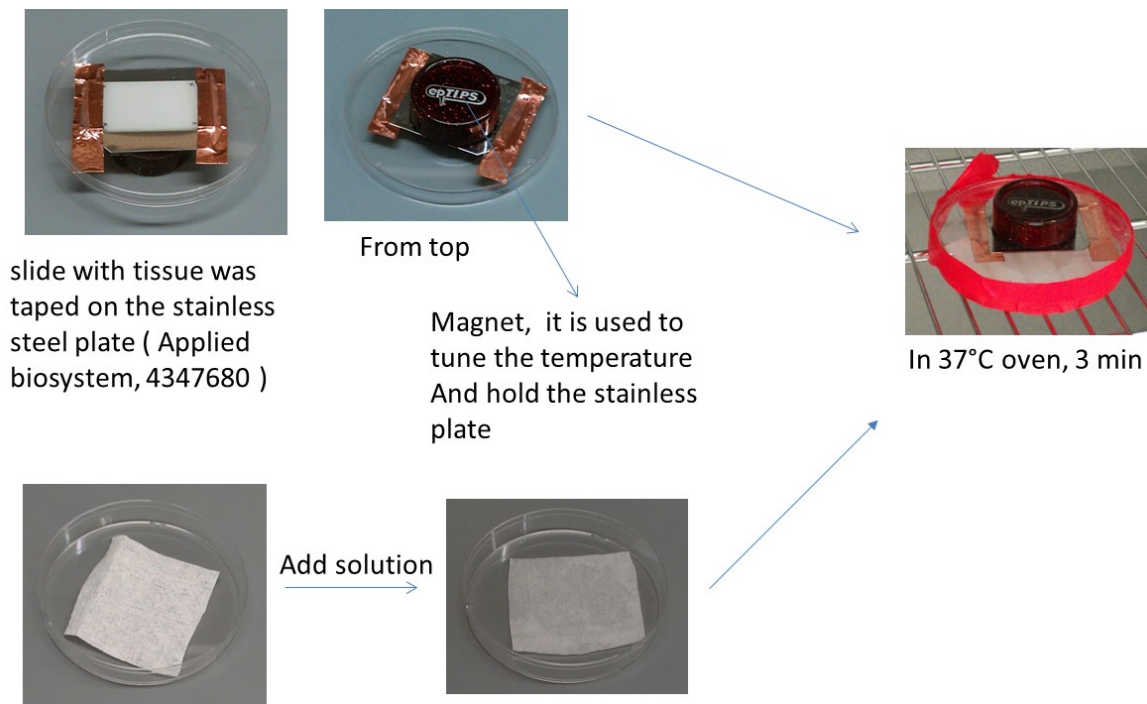

Figure 1 Construction of the rehydration/recrystallization chamber with a Petri dish, magnet, stainless steel plate and tape.
3. Rehydration of sublimated DHA for imaging proteins (Figure 1).